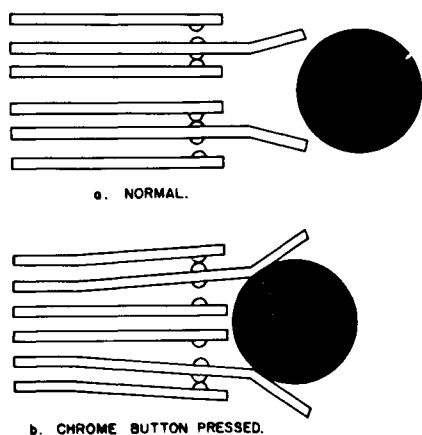

Figure 8. Typical exclusion key operation.
3.5 Figures 8 and 9 are line drawings of the exclusion key and combination push-turn key, intended to help the installer insure that the keys are operating properly. They will also aid in making minor readjustments of the keys. Figure 8a shows the positions of the ex-